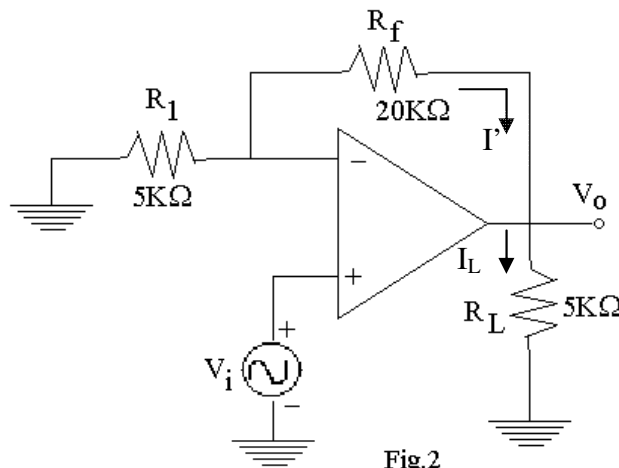

Fig.2
- Q.68** In the circuit shown below in Fig.2, calculate